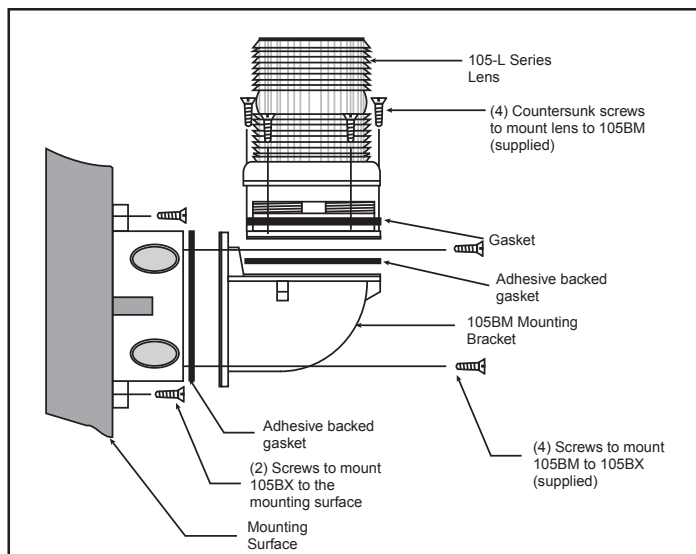

Figure 1. Mounting Cat. No. 105BM Mounting Bracket
**NOTE:** When mounting using the Cat. No. 105BM mounting bracket, the Cat. No. 105BX outlet box attachment must also be used as shown in Figure 1.
- b. **Cat. No. 105BM:** Using the four supplied screws, secure the mounting bracket to Cat. No. 105BX outlet box attachment as shown in Figure 1. Attach the adhesive backed gasket to the top of the 105BM mounting bracket, being careful to line up the holes in the gasket with the mounting holes in the outlet box.